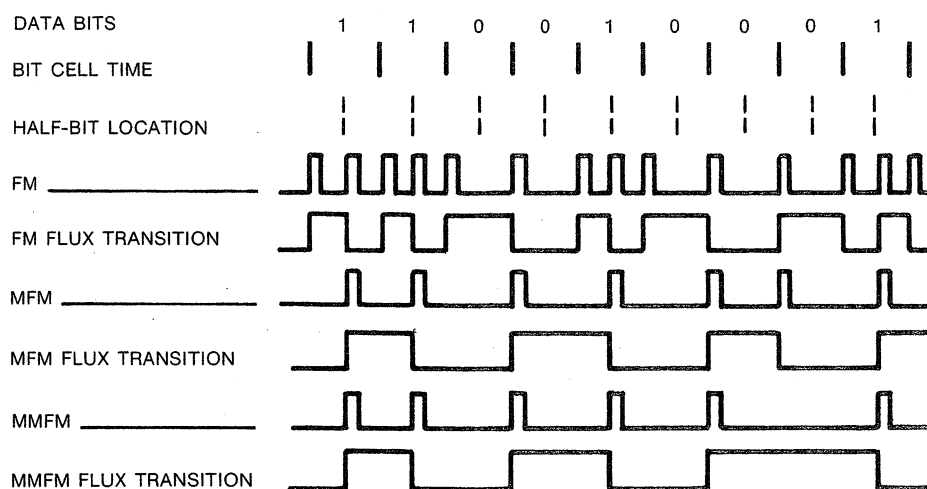

FIGURE 4-1. COMPARISON OF FM, MFM, AND MMFM RECORDING
Data may be recorded onto the media by the 550/552 Flexible Disc Drive in one of two modes—single-density mode (FM) or double-density mode (MFM or MMFM). The encoding algorithm performed external to the drive by the controller is defined below with illustrations (Figure 4-1) for both FM and MFM/MMFM.